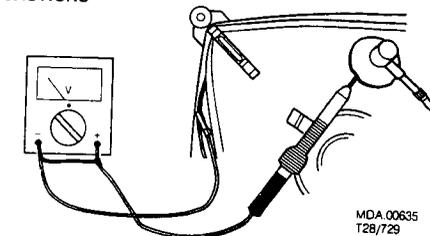

Fig. 1
2. In order to preclude damage to IC's and transistors flashover of the EHT should be avoided. To prevent damage of the picture tube, the method indicated in Fig. 1 has to be applied when discharging the picture tube. Make use of a high-voltage probe and a universal meter (position DC-V). Discharge until the deflection on the meter has become 0 Volt (after about 30 s).